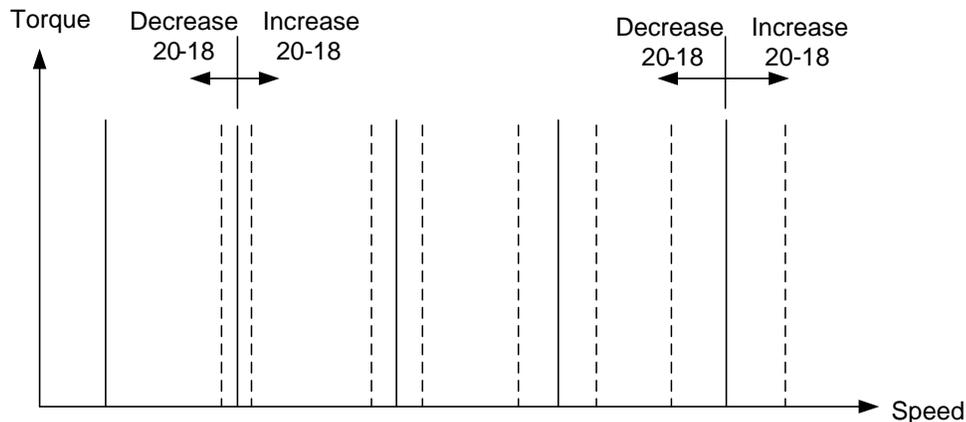

Figure 4.4.117 Effect on the torque-speed curve from 20-18
- Use parameter 20-18 to adjust the torque compensation gain for middle to high speed range. For most general purpose applications it is not necessary to adjust the 20-18. By tuning 20-18 an offset is added to the torque-speed curve. Increase 20-18 when the no-load speed is lower than the frequency reference. Decrease 20-18 when the no-load speed is higher than the frequency reference. The effect on the torque-speed curve from 20-18 is shown as the following figure 4.4.117.